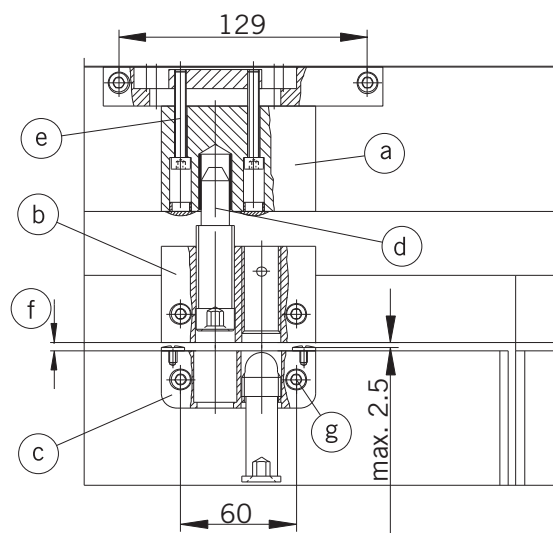

Fig. 13
13. Mounting the lock mechanism (Fig. 13):